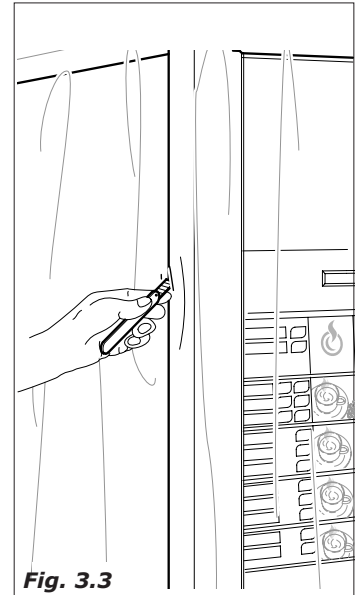

Fig. 3.3
- Free the distributor from the packaging, cutting the protective film in which it is wrapped, along one of the protection angles (Fig.3.3).